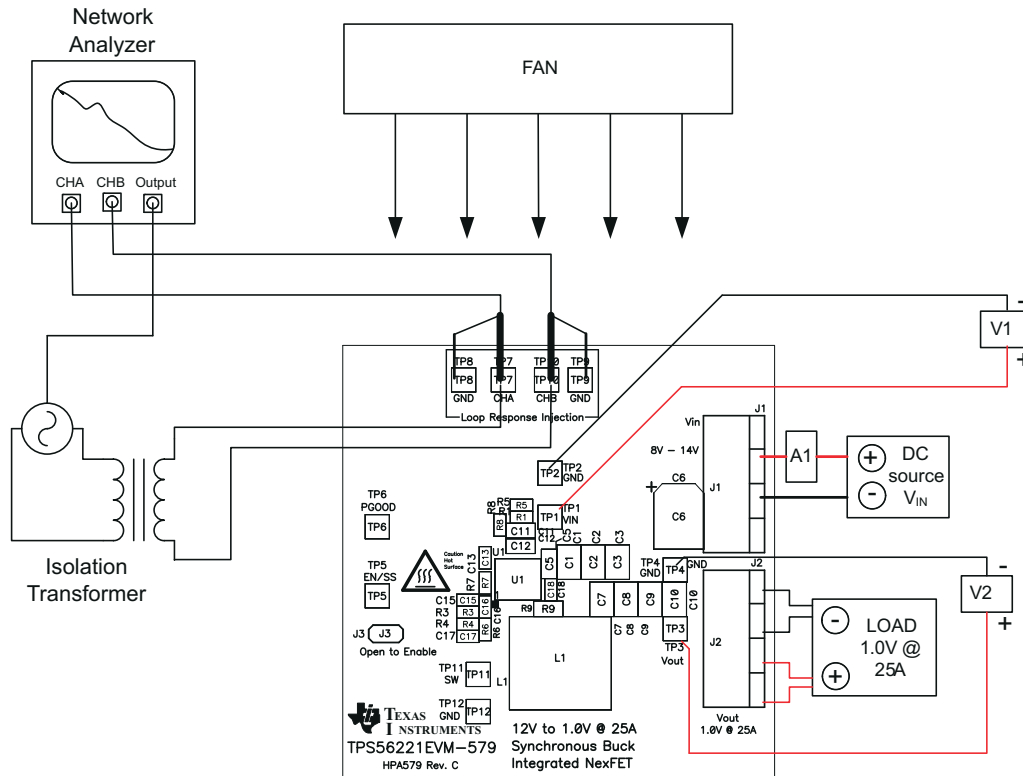

Figure 8-2. Control Loop Measurement Setup
2. Connect isolation transformer to test points TP7 and TP10 as shown in Figure 8-2.
3. Connect input signal amplitude measurement probe (Channel A) to TP7 as shown in Figure 8-2.
4. Connect output signal amplitude measurement probe (Channel B) to TP10 as shown in Figure 8-2.
5. Connect ground lead of Channel A and Channel B to TP8 and TP9 as shown in Figure 8-2, respectively.